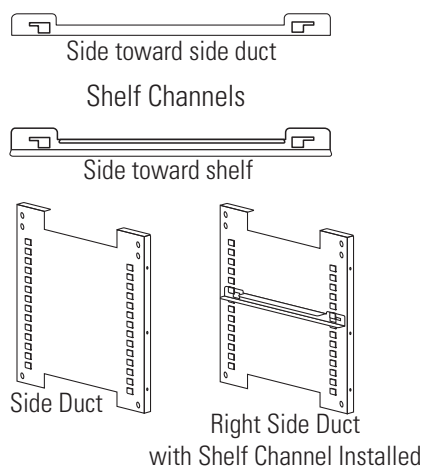

Figure 1-11. Shelf Channels and Side Ducts
2. Install the side ducts with the tabs facing into the center of the chamber with their slots up. There are no right side or left side ducts, simply rotate one of them to fit the opposite side. Tilt the side ducts as they are placed into the chamber so the tops fit into the top air duct, then guide them into the vertical position. Figure 1-11 shows the side duct as it would be oriented for the right side of the chamber.
3. Referring to Figure 1-11, note that there is no difference in the left and right shelf channels.
5. Figure 1-11 shows one of the channels installed on the right side duct.